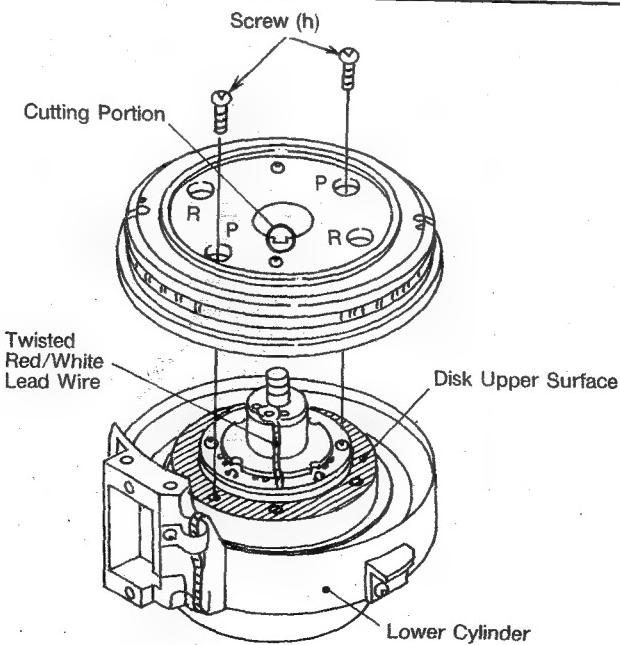

Fig. 7-7-5
- 2) Mount Center Drum Unit as shown in figure 7-7-5.